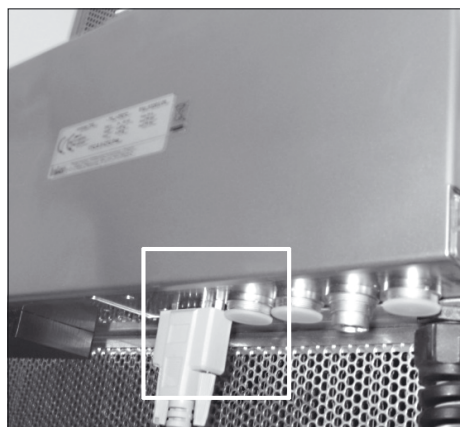

Fig. 12: Cryopilot A Serial Port
- ▶ Connect one end of the USB to Unistat cable to a USB port on the computer and the other end to the serial port on the underside of the ComBox as shown in Figure 12. The ComBox is located at the rear of the Cryopilot A.